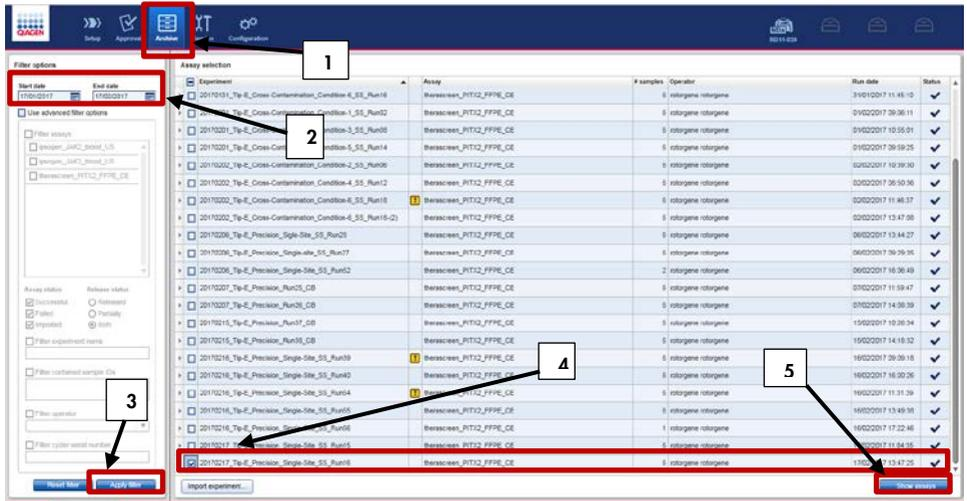

Figure 14. Export of the run data.
6. Go to the "Archive" tab to export the .rex file. Check that "start date" and "end date" are correct and click "apply filter". Select the experiment to export then click on "Show assays" (Figure 14).